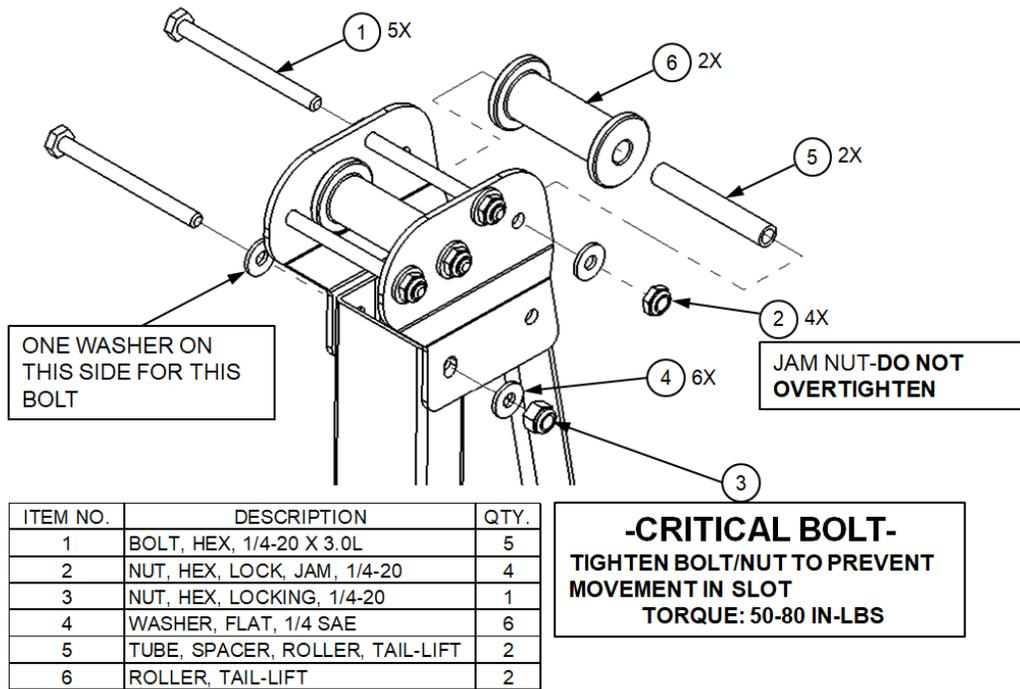

Figure 3
### Upper Roller Mounting (Figure 3)
3. Insert the bolt (Item 1, Figure 3) in the slot/hole in the Brace Beam/Vertical Beam Assembly. **THIS BOLT IS CRITICAL AND NEEDS TO BE TIGHT (TORQUE: 60-85 IN-LBS)**